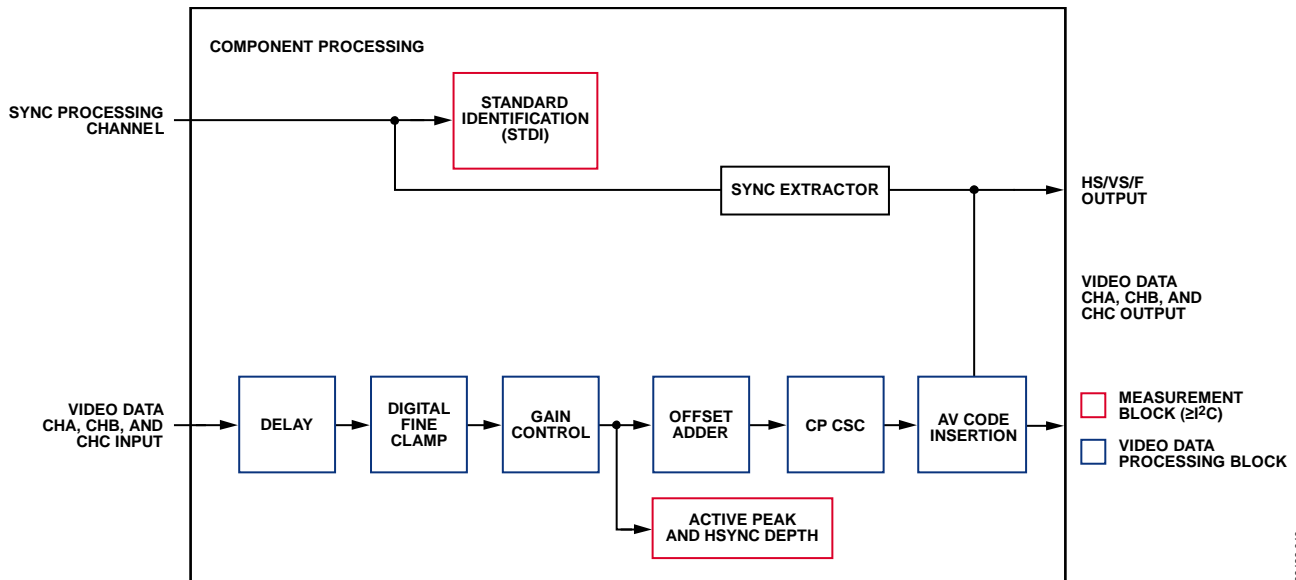

Figure 39. Component Processor Block Diagram
A simplified block diagram of the the component processor (CP) on the ADV7612 is shown in Figure 39. Data is supplied to the CP from the data preprocessor (DPP). The CP circuitry is activated under the control of `PRIM_MODE[3:0]` and `VID_STD[5:0]`.